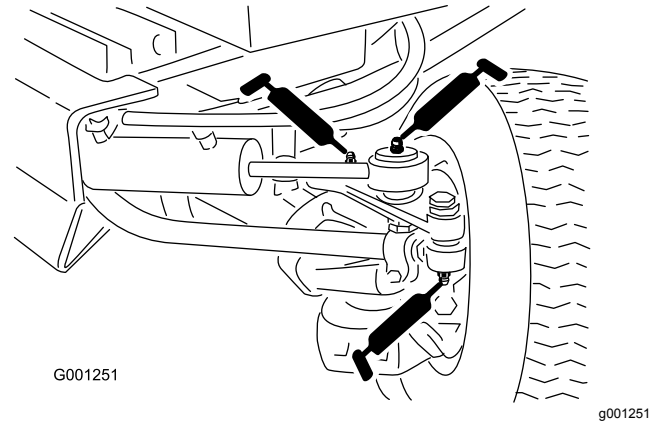

Figure 41
- Tie-rod ends (2) (Figure 41)
- Cylinder-rod ends (2) (Figure 41)
- Steering pivots (2) (Figure 41)
- Axle-pivot pin (Figure 41)